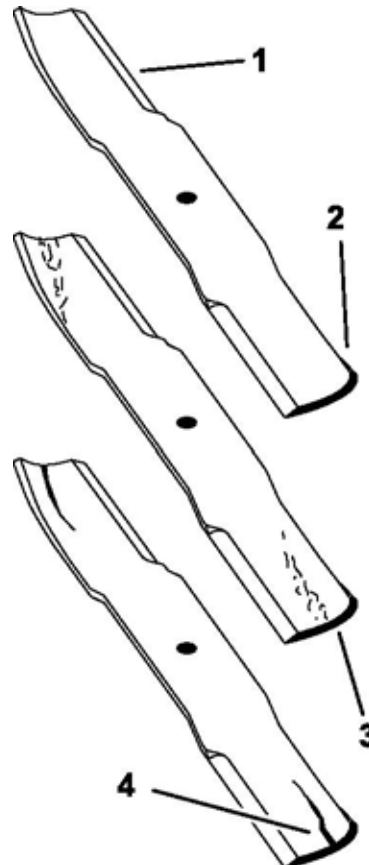

Figure 26
5. Inspect the cutting edges (**item 1 Figure 26**). If the edges are not sharp or have nicks, remove and sharpen the blades.
6. Inspect the blades, especially the curved area (**Figure 26**). If you notice any cracks, wear, or a slot forming in this area (**item 3 & 4 Figure 26**), discard and immediately install a new blade.